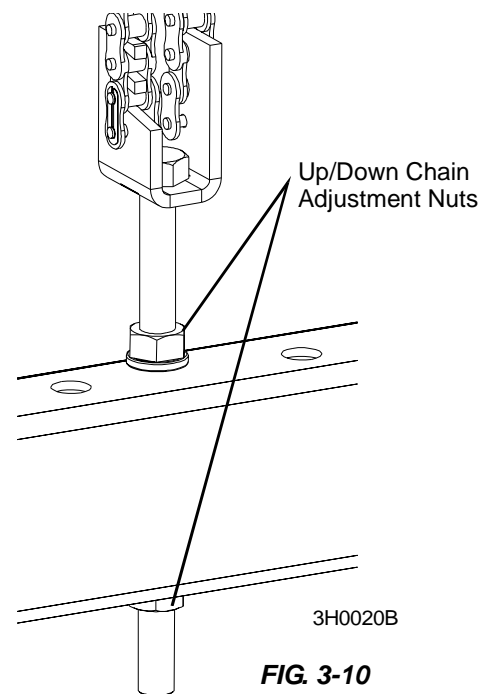

FIG. 3-10
1. Adjust the up/down chain tension as needed. Measure chain tension with the head all the way to the top of the vertical mast. Secure the carriage with a chain at the top. Find the chain adjusting bolt at the bottom of the mast, behind the battery box. Adjust the nuts on the bolt until you can get about 1 1/2" (3.8 cm) total deflection in the center of the chain with a 5 lb. (2.3 Kg) deflection force. **See Figure 3-10.**